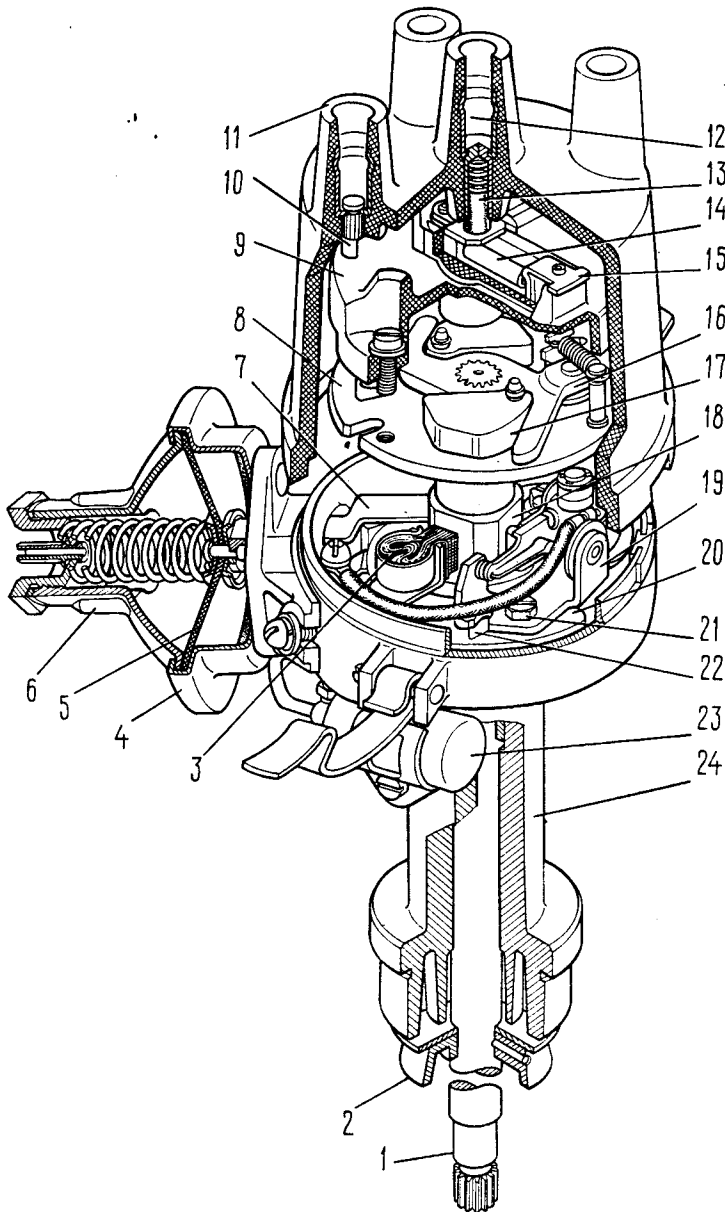

Fig. 7-21. Ignition Distributor 30.3706-02:
- measure the gap with a feeler gauge. If the gap not within 0.35 and 0.45 mm limits, loosen screws 21 (Fig. 7-21) of the breaker bracket, insert the blade of a screwdriver into slot 22 and turn the breaker bracket as required. After adjustment tighten screws 21 all the way home.
- From 1980, the car engines fitted with carburettor 2107-1107010-20 are furnished with type 30.3706-02 ignition distributors with a vacuum spark timer (Fig. 7-21).